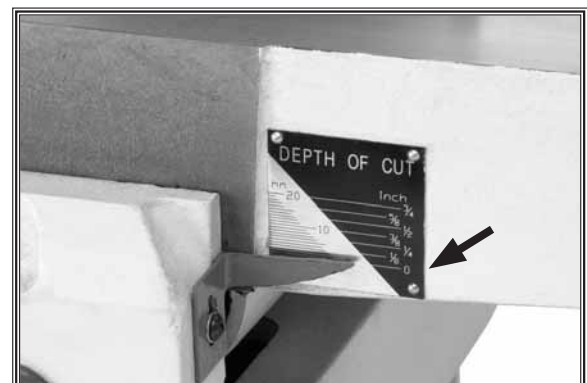

Figure 52. Depth scale adjusted to "0" position.
4. Using a screwdriver, adjust the scale pointer to "0" (**Figure 52**), then reset the infeed table positive stops.